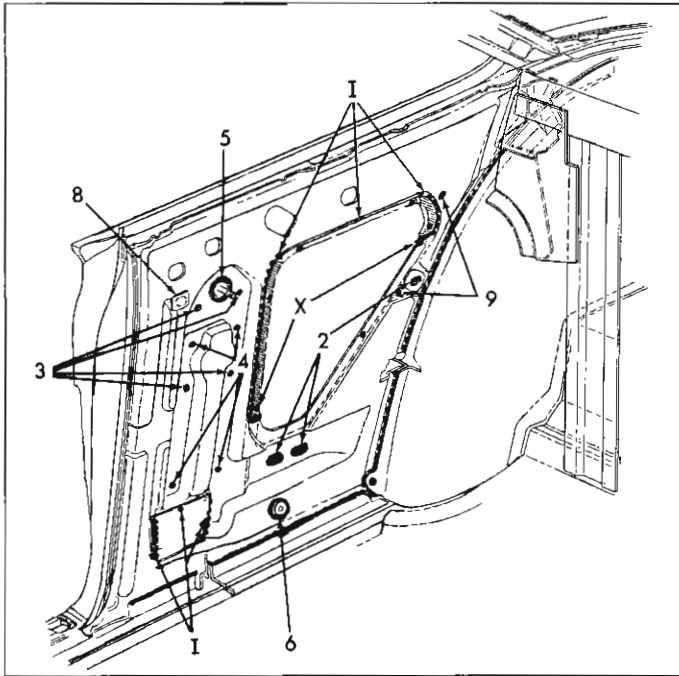

Fig. 23—Quarter Inner Panel Sealing "37" and "47" Styles
For "37" and "47" Styles - See Figure 23
**Item 9 for "37" and "47" Styles only (see fig. 23)**